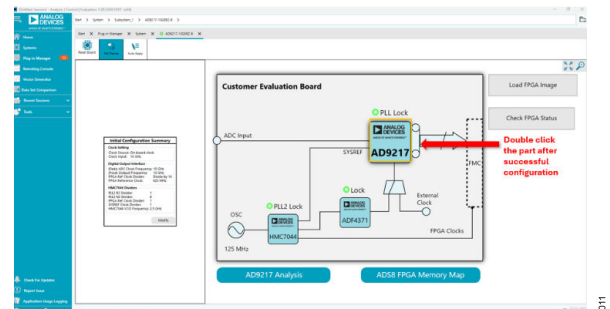

Figure 11. Icon
12. Double-click on the **AD9217** icon to proceed to check the chip internal status (see Figure 11).